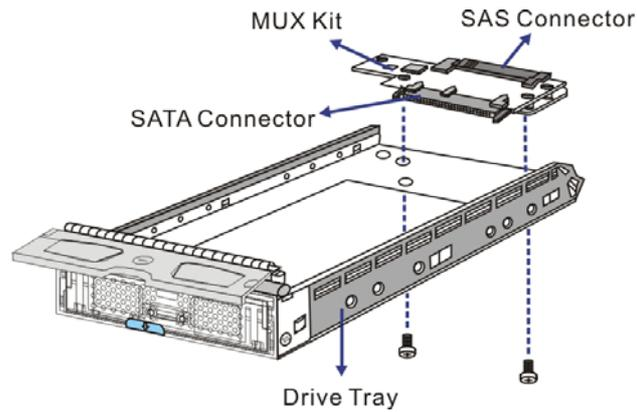

**Figure 2-9: Drive Tray Rotary Lock Rotation**
**Step 5. Lock the front flap into place** by turning the rotary bezel lock using a small-size flathead screwdriver. Turn the bezel lock until the groove on its face is pointing down (vertical orientation). (See *Figure 2-9*)